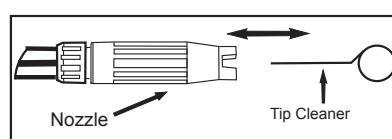

Figure 5- Insert tip cleaner in nozzle hole
- Using included tip cleaner, or an unfolded paper clip, insert wire into the nozzle hole and move back and forth until debris is dislodged. (See Figure 5.)